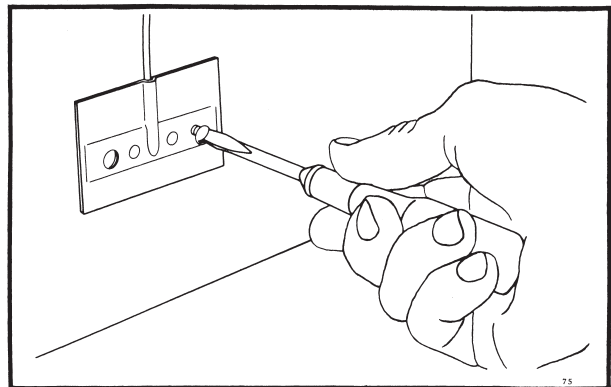

FIG. 6—FASTENING HOLDER TO DUCT WALL.
6. Fasten bulb holder to duct wall with screws furnished, as shown in Fig. 6.